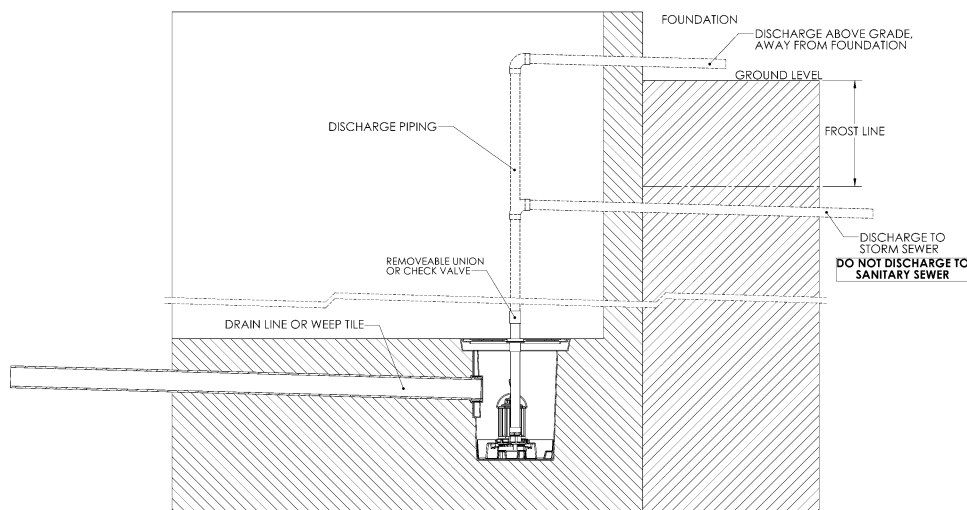

Fig. 1 – Typical Residential Installation
- A. **INLET:** The SPAC-237, SPAC-457 and SPAC-S37 are supplied with (2) 4" inlet pipe grommets. In order to install an inlet pipe, a 4" diameter hole must first be drilled in the round inlet recess on the side of the basin using a hole saw. Next, insert the supplied grommet into the recess in the side of the tank where the hole was just drilled. Finally slide the pipe into the grommet until it is fully seated against the stop. If an additional inlet pipe is desired, repeat the above steps for the opposite side of the tank.
- C. **CHECK VALVE:** The SPAC-237, SPAC-457 and SPAC-S37 are not supplied with check valves. If the pump is short cycling, then a check valve may be required. This would prevent water from draining back through the discharge piping into the basin. When using a check valve, the discharge line must be protected from freezing by running the discharge deep enough below ground level to be beneath the frost line. See Fig. 1